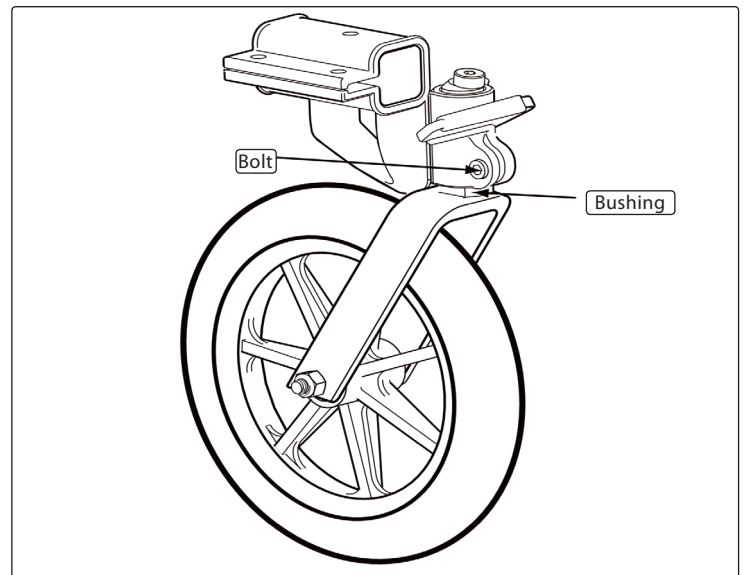

FIGURE 3: To adjust stroller wheel tracking
1. With stroller wheel secured in "Stroll" position, loosen bolt using 5mm hex wrench. FIGURE 3